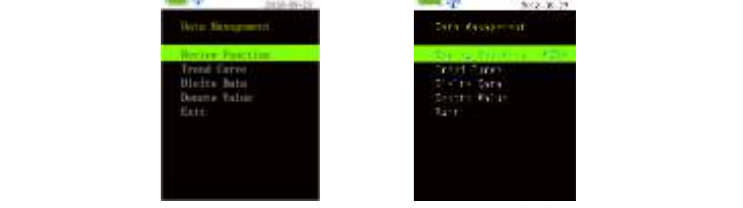

Figure 9 Data management interface Figure 10 Case selection interface
- (4) Equation setting**
- (5) Setting of smoker and BDT**
- (6) Exit**
- Select "Data management" in Menu interface to enter its sub-menu shown as Figure 9, then "Review Function", "Trend Curve", "Delete Data" and "Denote Value" can be selected.